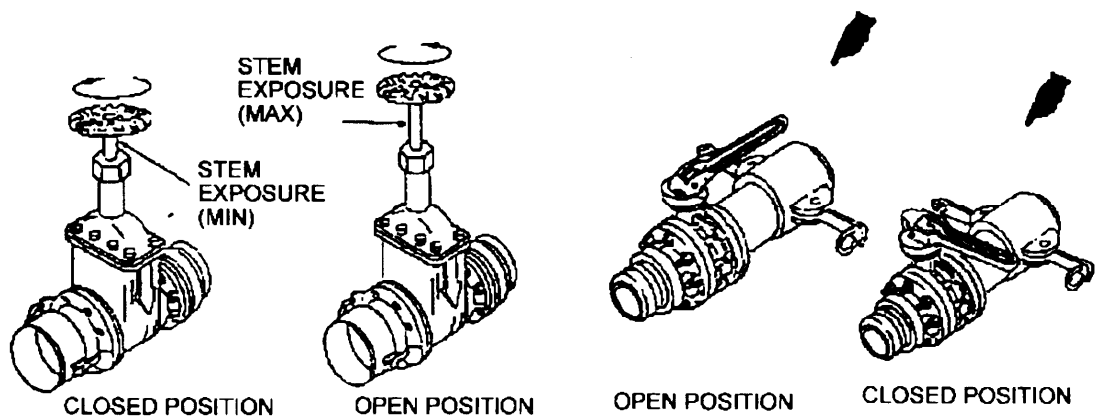

Figure 2-11. Gate Valve or Butterfly Valve in Closed and Open Positions.
The gate valve is full opened by rotating the handwheel to the left and backing off one-quarter turn. The gate valve is fully closed by rotating the handwheel to the right and backing off one-quarter turn. Note the difference in exposure of the handle stem between the closed and open positions as shown in figure 2-11.
- d. Check filler/discharge gate, butterfly, or ball valve (figure 2-11) to verify closed position.